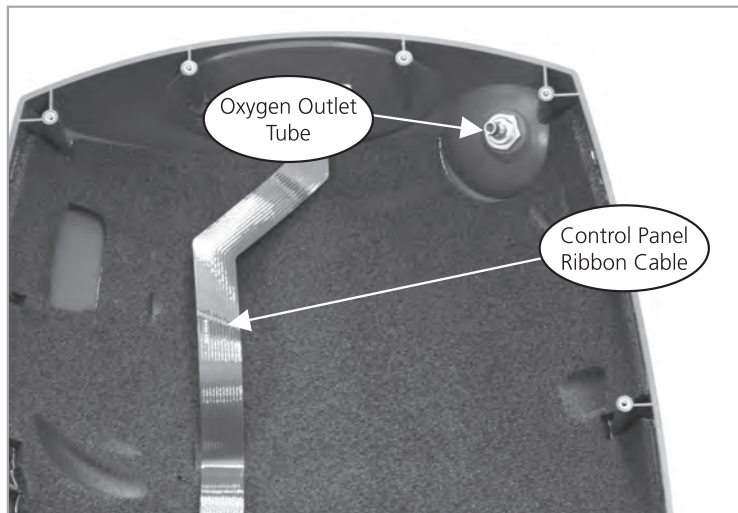

Figure 32: Top Case Components.
- Mount the ATF with 3 M4x16 screws and 3 washers as shown on Figure 32 on previous page. Apply Loctite[®] 425 Thread Locker on the threaded tips of the screws before installing. Tighten screws but DO NOT squash the grommets (2 in.lbs. maximum).